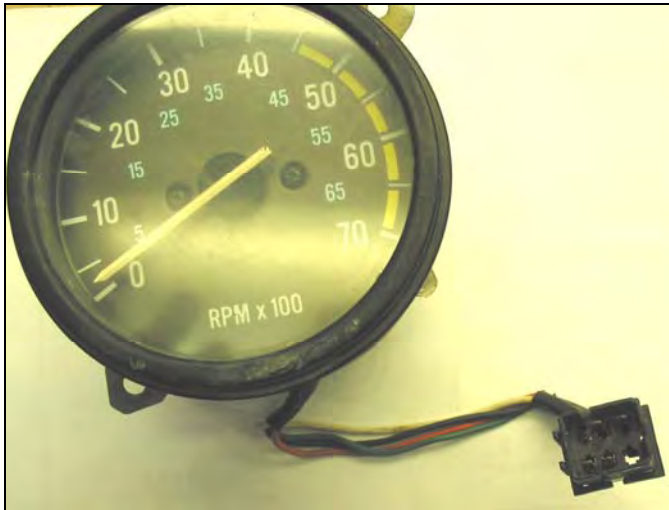

Figure 7.3.1 *Factory Tach. Pigtail*
- 7.3.1 The TACHOMETER wires come pre-terminated with a connector installed. Connect this connector onto the Tachometer pigtail coming from the gauge. **See Figure 7.3.1**